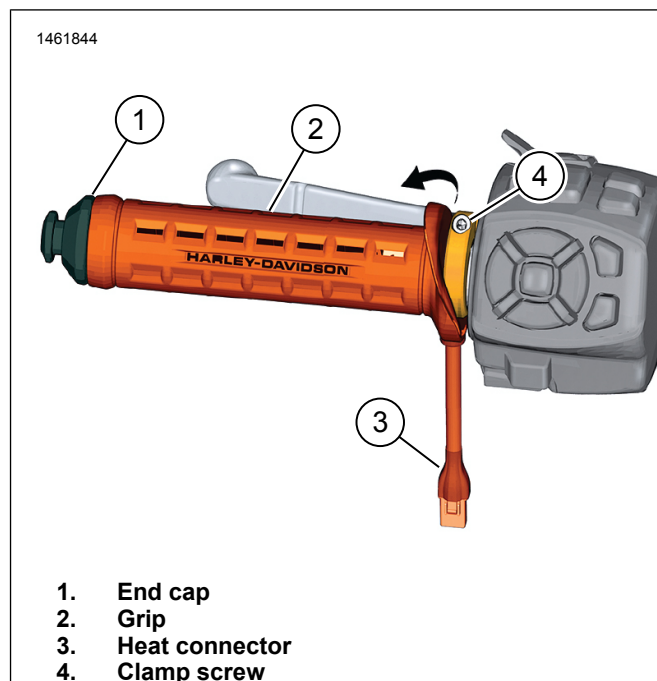
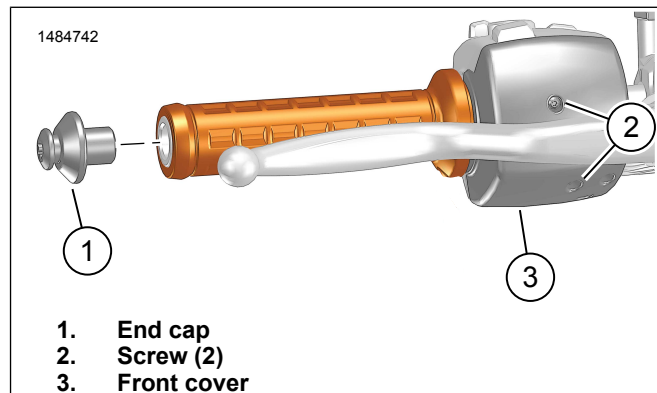

Figure 2. Left side Grip (typical)
Figure 4. Front Cover (right side shown)
1. See Figure 2. Remove end cap (1).
2. See Figure 2. Remove hand grip (2).
- a. Loosen clamp screw (4).
- b. See Figure 4. Remove front cover (3).
2. See Figure 4. Remove front cover (3).
1. See Figure 2. Install hand grip.
- a. Place grip (2) in position.
- b. Tighten clamp screw (4).
3. See Figure 4. Connect heated hand grip.
- b. See Figure 4. Place front cover (3) in position.
- c. Tighten screws (2). 0.6–0.9 N·m (5–8 in-lbs)
2. See Figure 2. Install end cap (1). Tighten.
4. See Figure 4. Place front cover (3) in position.
5. Tighten screws (2).